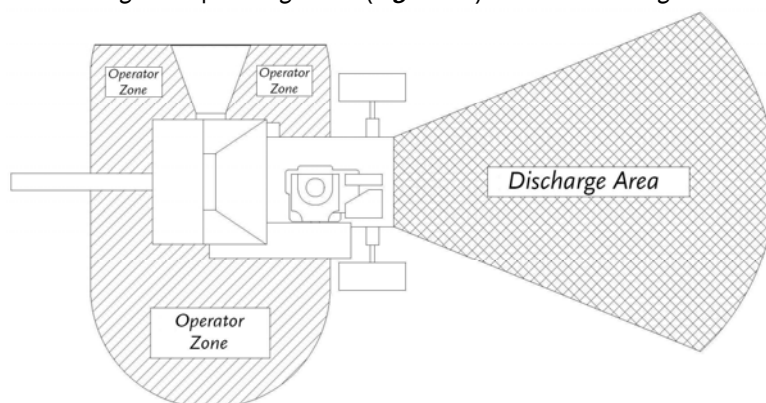

Figure 10
- When viewed from the Chipper Hopper side (Operator Zone, **Figure 10**), the Flywheel turns in a clockwise direction.
- ALWAYS operate the DR CHIPPER/SHREDDER from the Operator Zone shown in **Figure 10**.
- ALWAYS stop the Engine when leaving the Operating Zone (**Figure 10**) or when moving the machine.